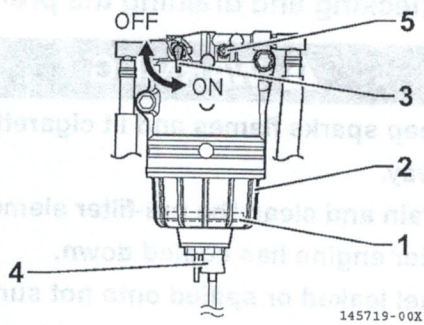

Fig. 3-4
2. Check the pre-filter to see whether the float (red ring) (Fig. 3-4, 1) has sunk down to the cup (Fig. 3-4, 2) bottom and a contamination has not mixed into the oil. If the float (Fig. 3-4, 1) has sunk down to the cup (Fig. 3-4, 2) bottom, no water has mixed into the oil; if the float (Fig. 3-4, 1) is floating in the cup (Fig. 3-4, 2), water is mixed into the oil under the float (Fig. 3-4, 1). If the water or the contamination is found in the cup (Fig. 3-4, 2), remove it as the procedure below.
3. Turn the fuel cock (Fig. 3-4, 3) to the OFF position.
4. Place a container receiving fuel under the hose from the drain cock (Fig. 3-4, 4).
5. Loosen the drain cock (Fig. 3-4, 4) about 4 turns, and drain the water and contamination.
If no water drips when the pre-filter drain cock (Fig. 3-4, 4) is opened, loosen the air bleeder bolt (Fig. 3-4, 5) on the top of the pre-filter by using a screwdriver to turn it counterclockwise 2 to 3 turns. After draining the pre-filter, be sure to tighten the air bleeder bolt (Fig. 3-4, 5).
6. Hand-tighten the drain cock (Fig. 3-4, 4).
7. Wipe off fuel and water adhering to the hose of the drain cock (Fig. 3-4, 4).
8. Turn the fuel cock (Fig. 3-4, 3) to the ON position.